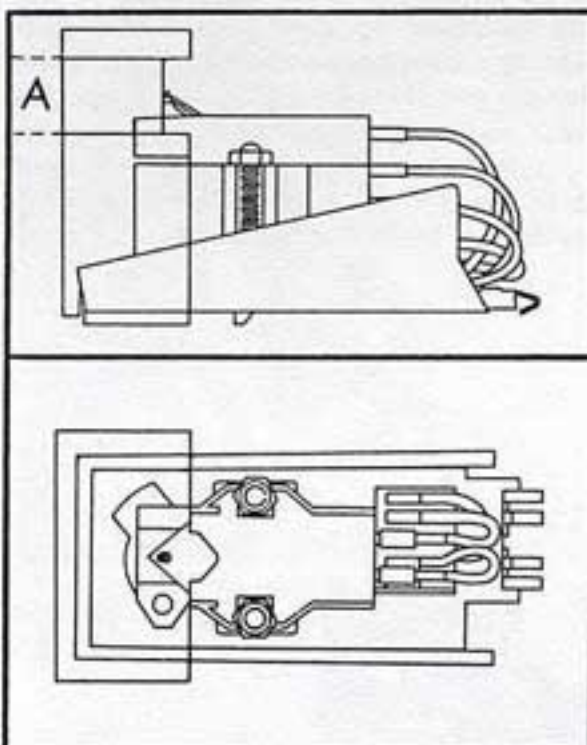

Fig. 14
3. A special gauge is also supplied to assure correct mounting. (Fig. 14). The cartridge is correctly mounted when the notch in the gauge encloses the stylus tip, and when the stylus tip, viewed from the side is also within the area (A).